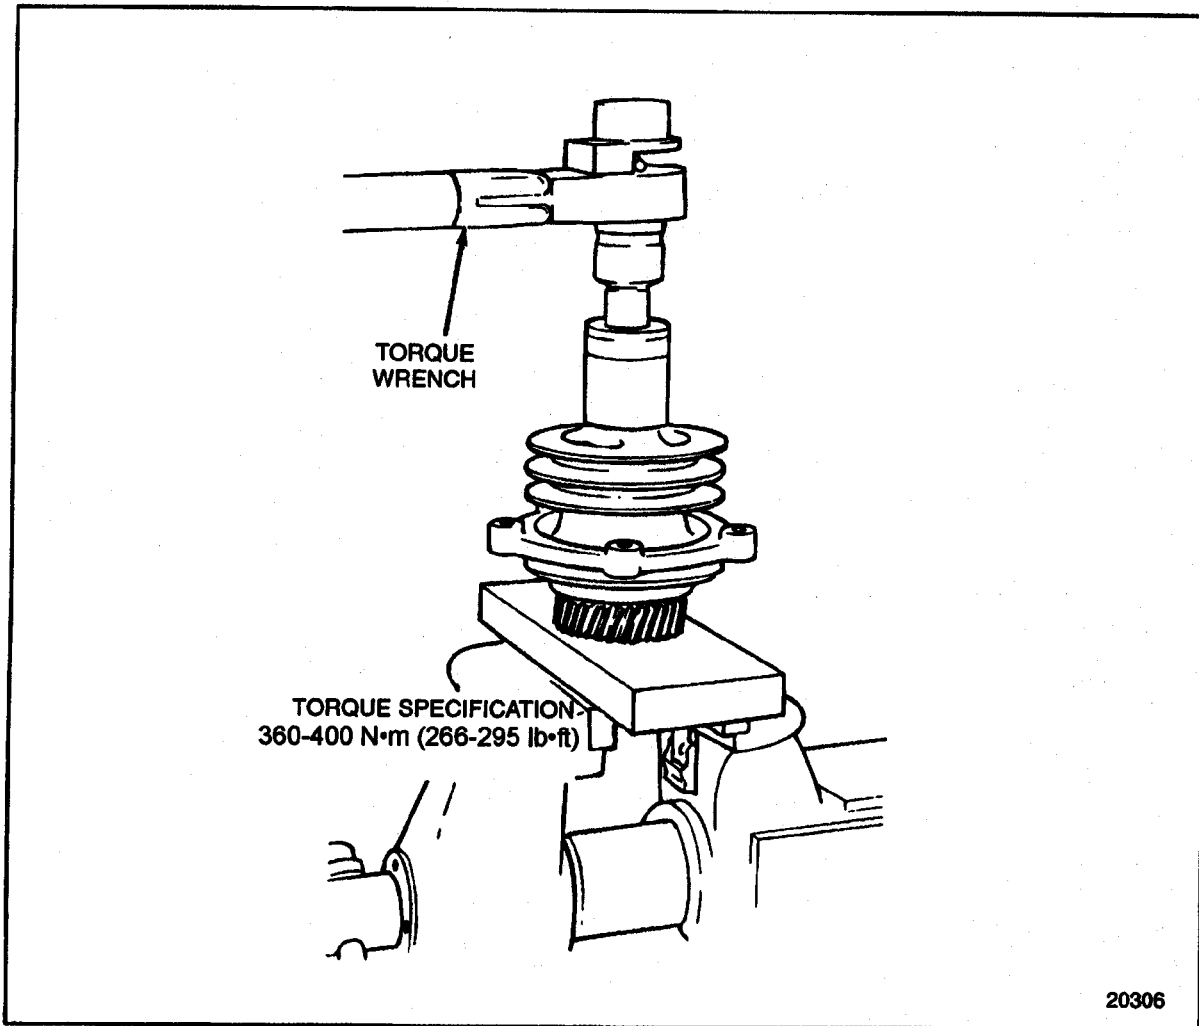

Figure 1-422 Accessory Drive Pulley Locknut Tightening
18. Place the accessory drive assembly holding fixture into a vise. See Figure 1-422.
19. Install and torque the accessory drive pulley locknut to 360-400 N·m (266-295 lb·ft). See Figure 1-422.